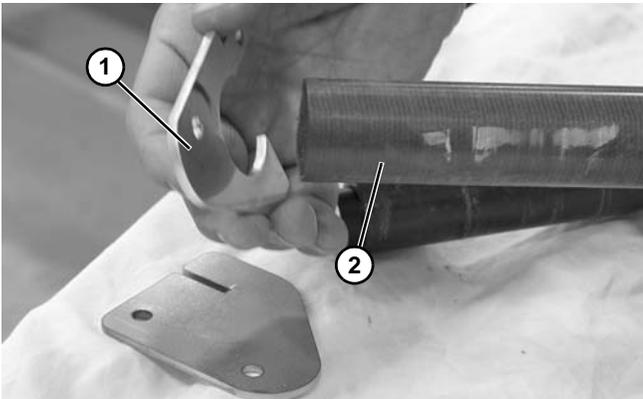

Figure 82
- If equipped, remove retaining plates (**Figure 82, item 1**) off the ends of the wear bar (**Figure 82, item 2**). Inspect bar surface. If worn or damaged, replace bar. See “Service Parts” on page 42.